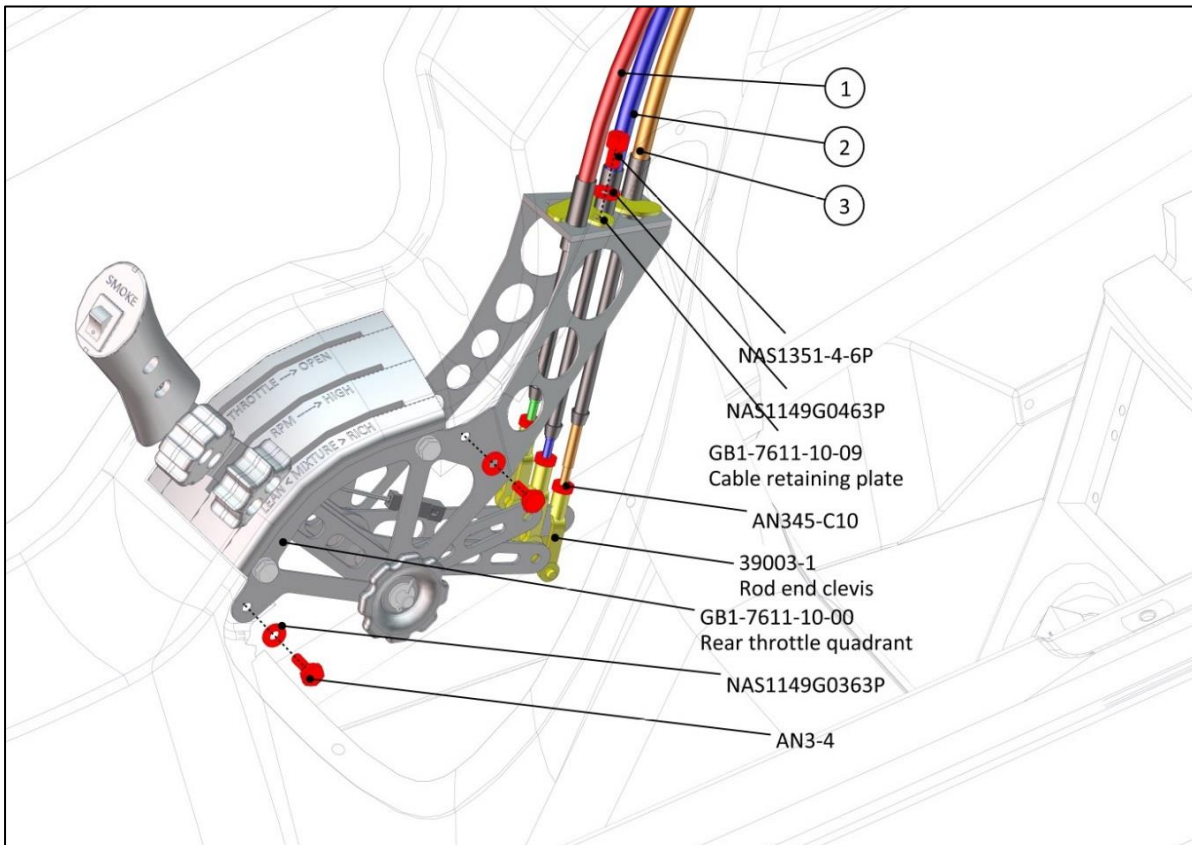

Fig. 73-2
7. Secure front throttle quadrant as shown on Fig. 73-2